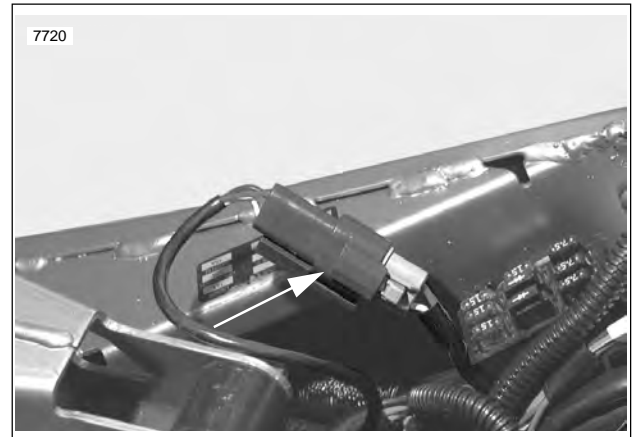

Figure 7-86. Speedometer Sensor Connector [65]
2. See Figure 7-86. Locate and unplug speedometer sensor 3-place connector [65]. Connector is located in the right side frame cavity.